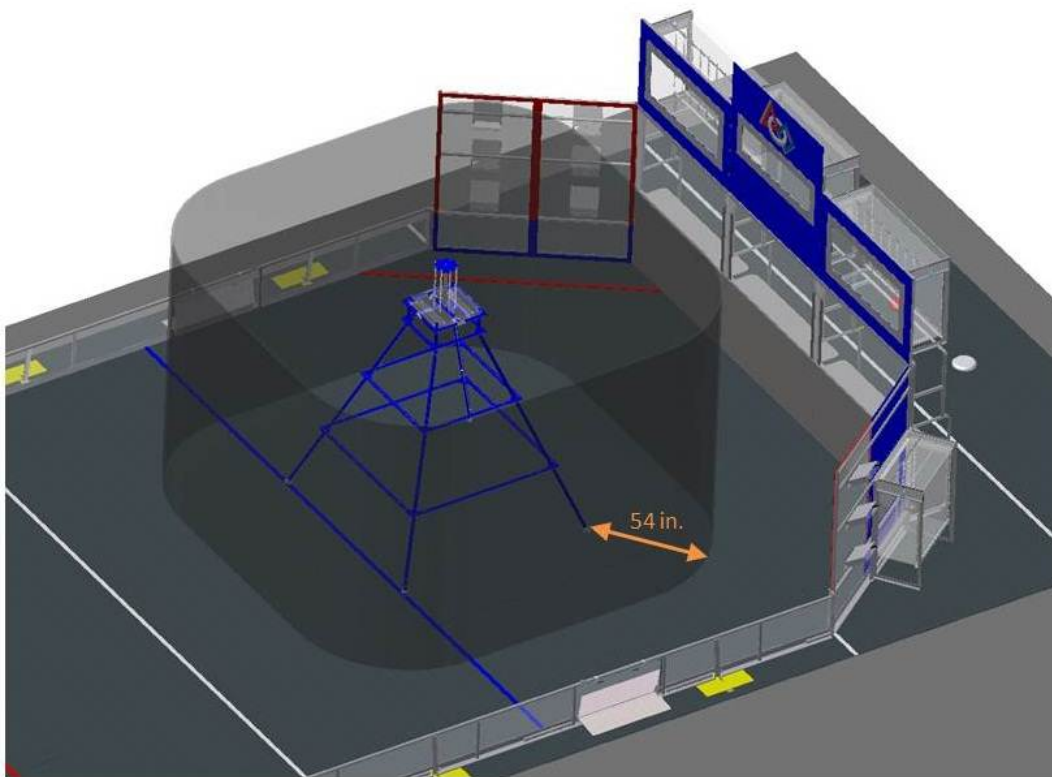

Figure 3-5b: Offset Plane from PYRAMID Base
- B. may not extend any part of itself beyond a vertical plane defined by a perimeter offset from the base of the PYRAMID by 54 in., see Figure 3-5b and Figure 3-5c.